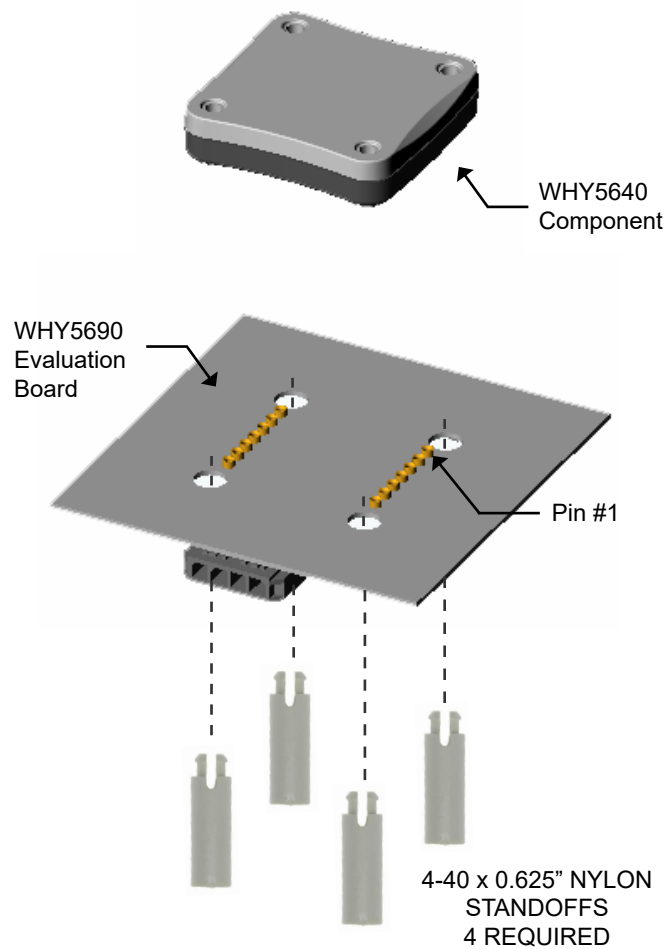

Figure 15. WHY5640 and WHY5690 Assembly
- Attach the snap-in standoffs (**Figure 15**).
WHY5640 and WHY5690 assembly instructions (Figure 15)